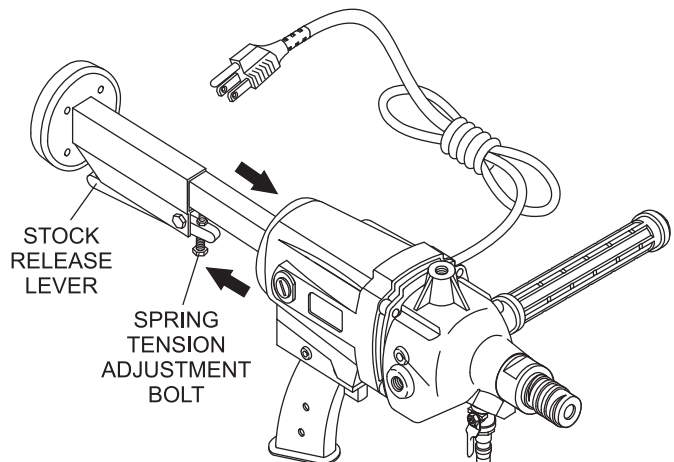

Figure 8. Adjusting the Stock
1. Place the valve on the water source to the **ON** position, and then turn the water valve on the core drill (Figure 8) to the **ON** position (down). Verify that water is flowing smoothly and evenly.